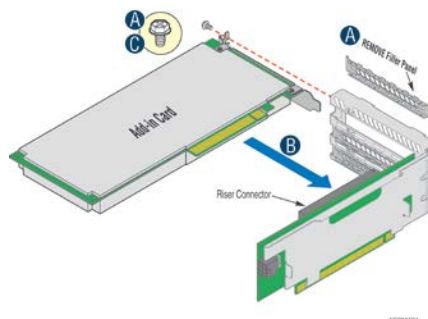

Figure 3. PCIe Add-In Card Installation
6. Install the Intel® Xeon Phi™ coprocessor card or other high power add-in card into the top X16 PCIe* add-in card slot (see Figure 3 below).